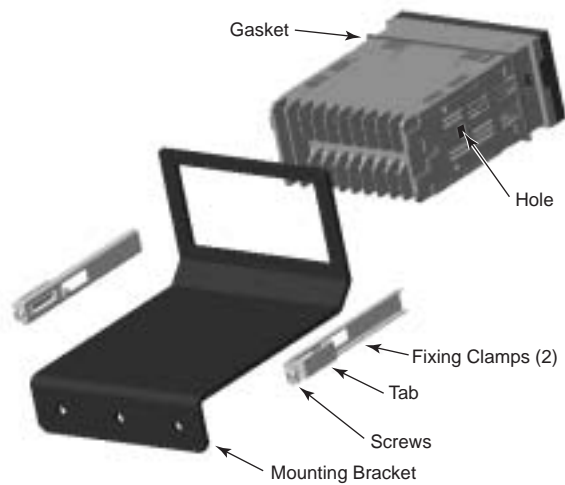

Figure D-1: Mounting Bracket Accessory Installation
1. Insert the rear of the monitor through the bracket's opening so the bottom of the monitor rests on the bracket surface. Make sure the gasket is in place. (See Figure D-1.)